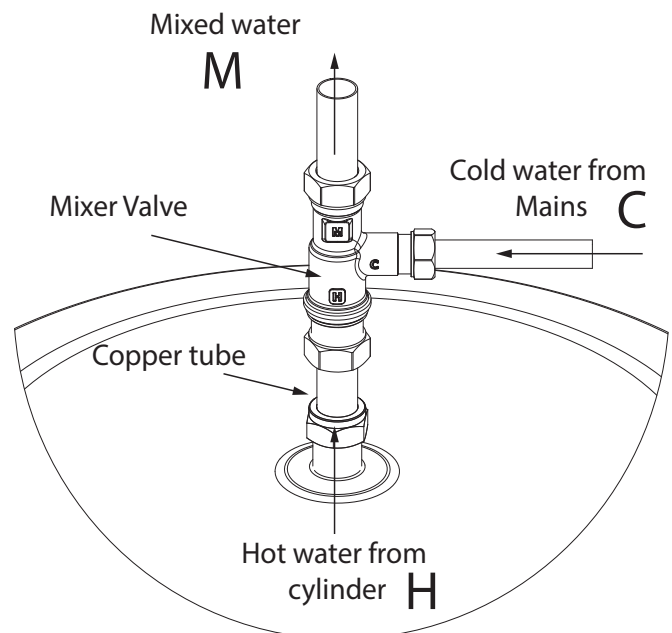

Figure 7: Mixing valve layout
- ▶ The mixing valve should be installed at the hot outlet point of the appliance using the copper tube supplied. (see figure 7 below). The mixing valve will reduce the hot water outlet temperature to approx 55°C, further temperature control will be required for outlets such as showers and baths